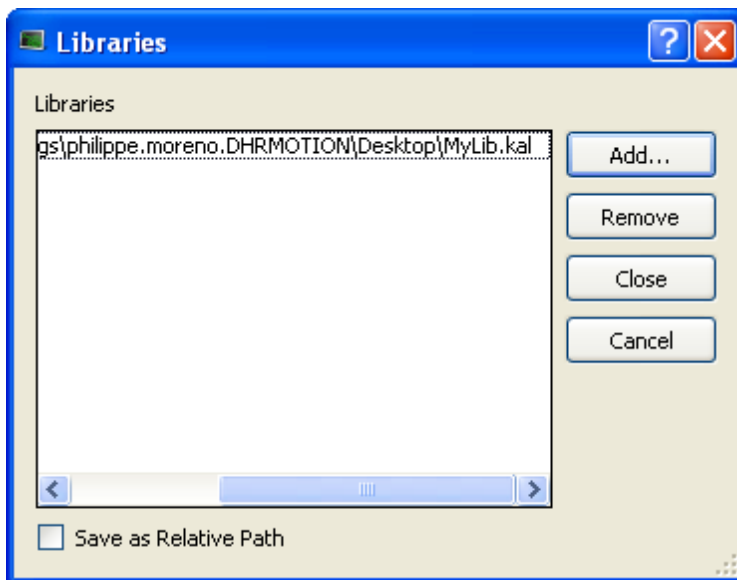

Figure 4-43: Use a Custom Library - Select the Library
- Enter the new path to this library (assuming it still exists on your machine) using the library dialog (see "Figure 4-43: Use a Custom Library - Select the Library " on page 220).